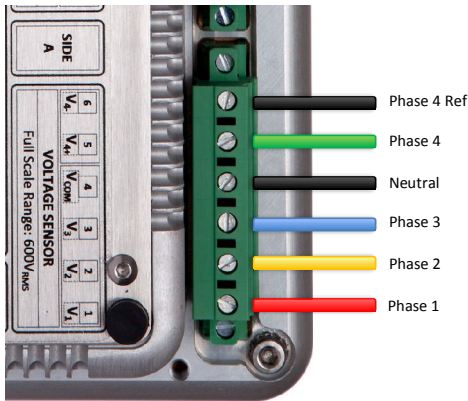

Figure 62: Impedo Duo 4-wire star connection
- Connect Phase 1,2 and 3 to Voltage Inputs 1-3 as shown in Figure 62 below.